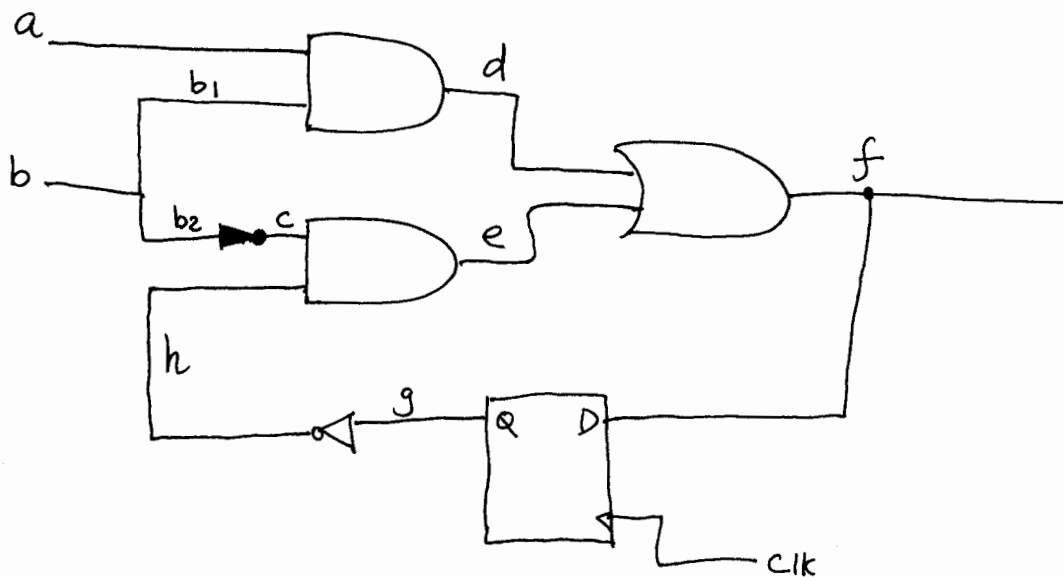

Fig. 5.
6. Given a circuit in Fig. 5, generate sequential controllability and sequential observability of each line. (16%)